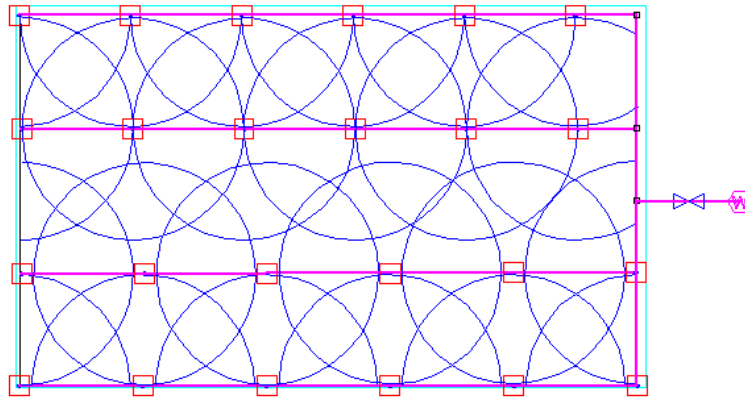

Figure 4-15
6. Select a **1" (25mm) valve** and connect the valve to the zone pipe end. Select *Mainline/Pipe* and connect the valve to the water supply to complete the system. See *Figure 4-15*. Follow the same design procedure as in the previous tutorials.